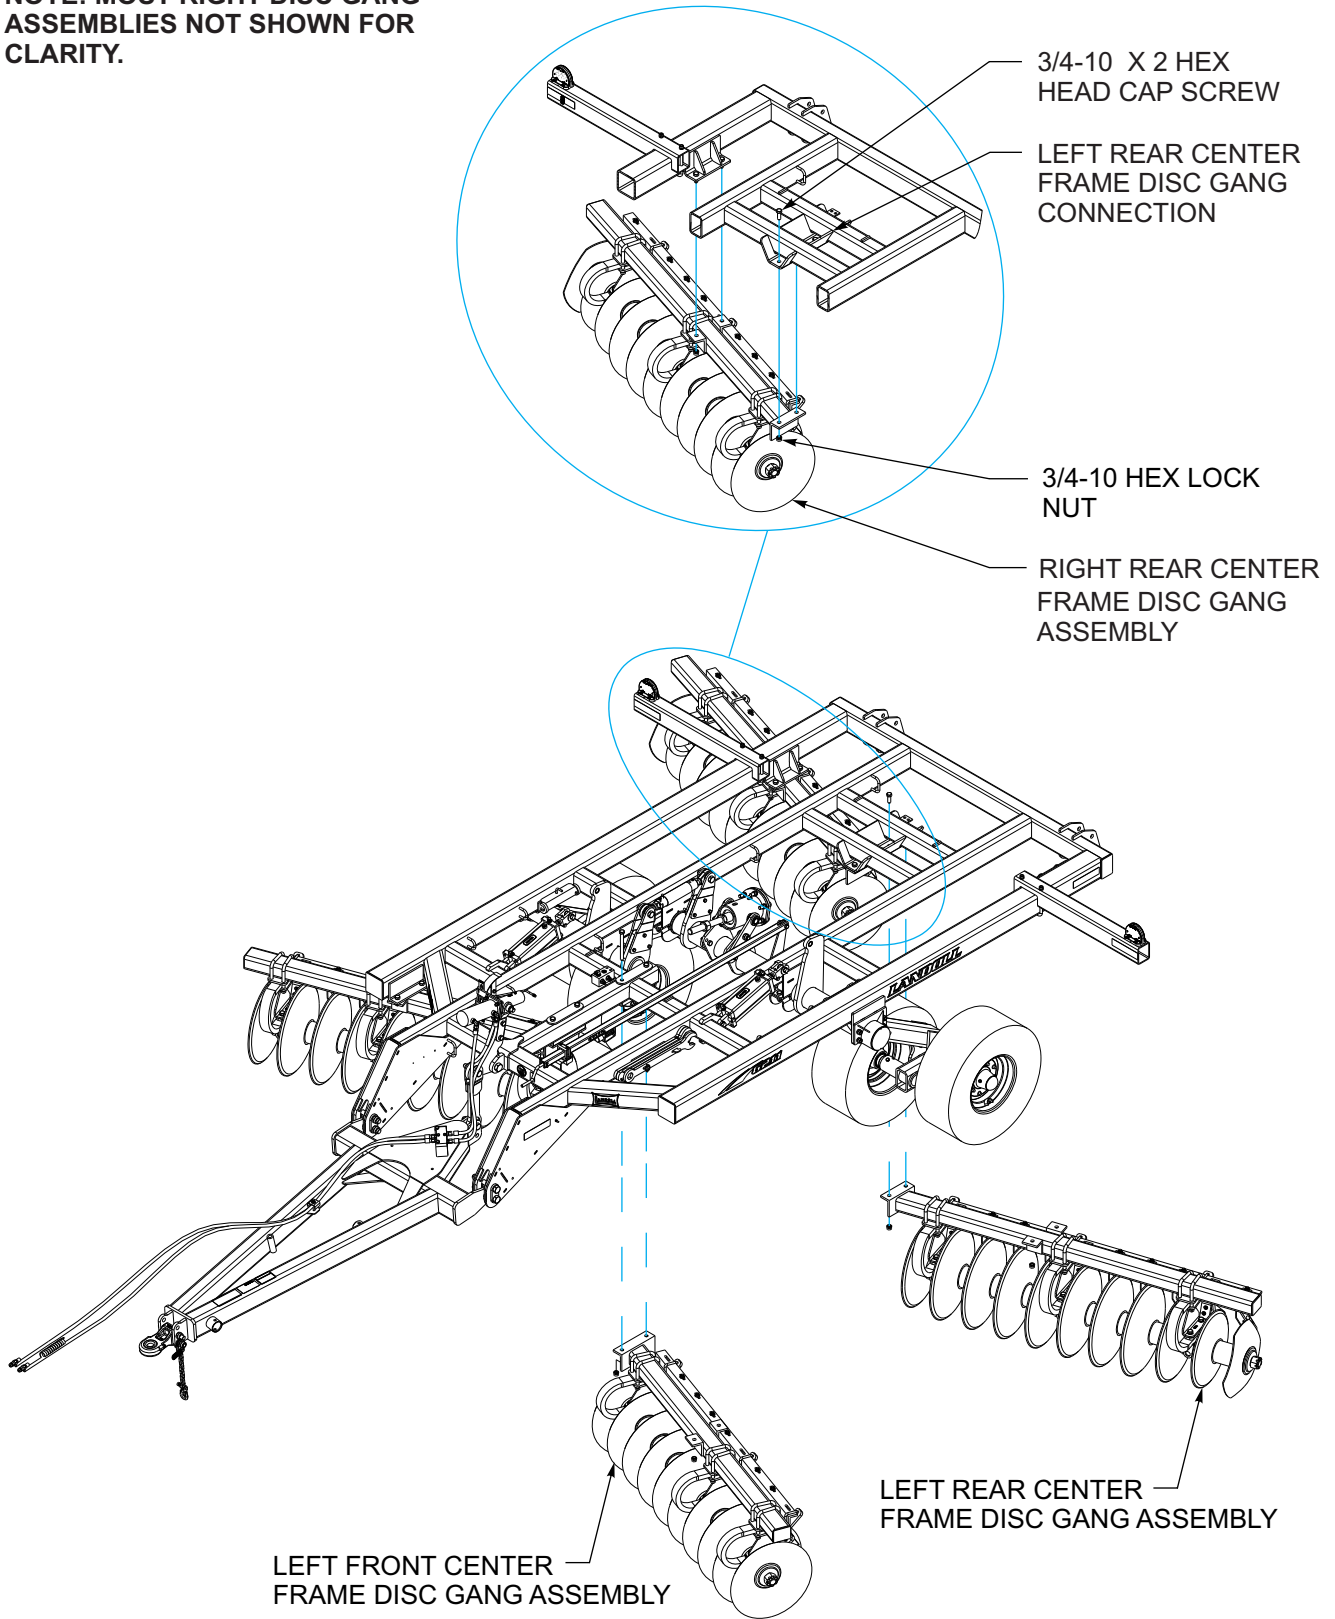

Figure 3-6: Disc Gang Installation
1. Attach the disc gang assemblies to the center section using 3/4-10 x 2 grade 8 hex head cap screws and hex lock nuts (**See Figure 3-6.**) Use a 3/4-10 x 2-1/2 grade 8 hex head cap screw, lubrication bracket and hex lock nut on each center front screws of the left and right front disk gangs.